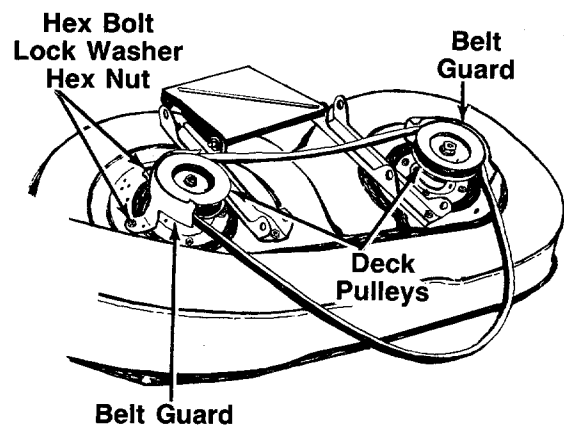

FIGURE 3.
10. Remove the belt guards at each deck pulley by removing the hex bolts, lock washers and hex nuts. See figure 3.